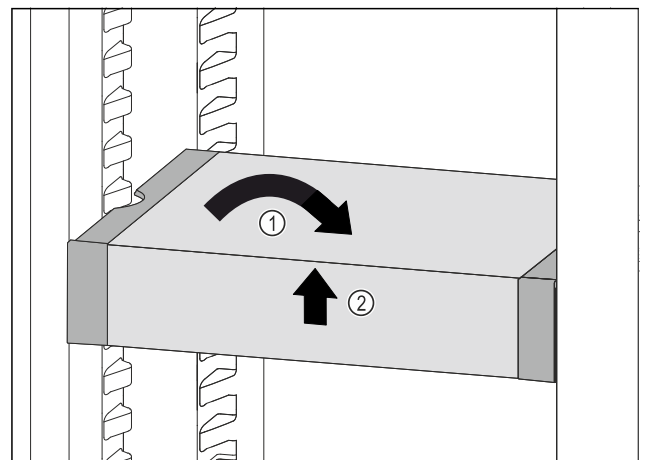

Fig. 192
- ▶ Set VarioSafe straight. Fig. 192 (1)
- ▶ Lift VarioSafe at the front. Fig. 192 (2)